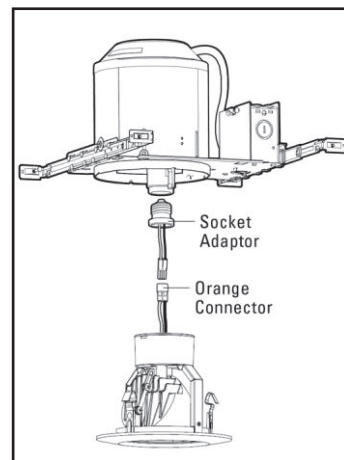

Figure 2
2. Securely screw socket adaptor into socket inside the can. While supporting the LED module, plug the orange connector of socket adaptor into the LED module's orange connector. (Figure 2)